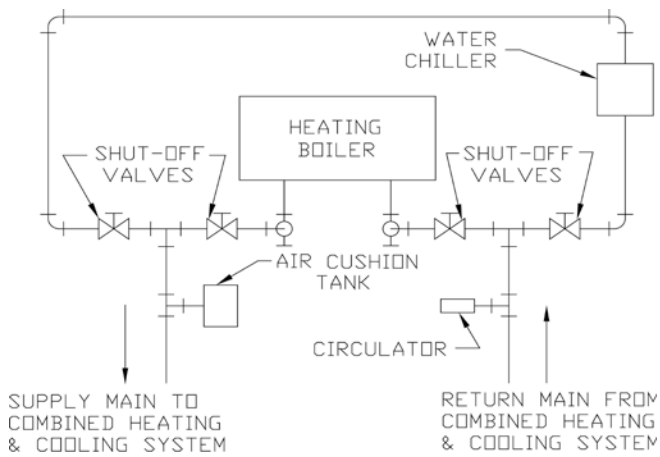

Figure 26: Recommended Piping for Combination Heating and Cooling (Refrigeration) Systems
3. If boiler is used in connection with refrigeration systems, boiler must be installed with chilled medium piped in parallel with heating boiler using appropriate valves to prevent the chilled medium from entering the boiler. See Figure 26. Also consult I=B=R Installation and Piping Guides.